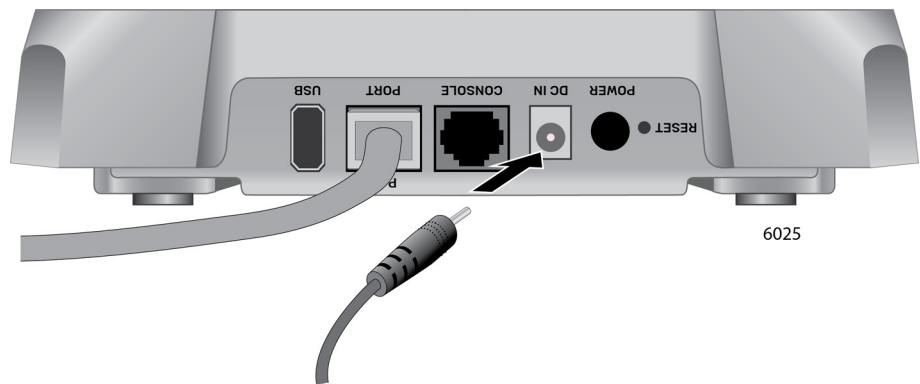

Figure 18. Connecting an AC Power Adapter to the Access Point
2. Plug the DC connector of the power adapter into the DC IN jack on the access point. Refer to Figure 18.